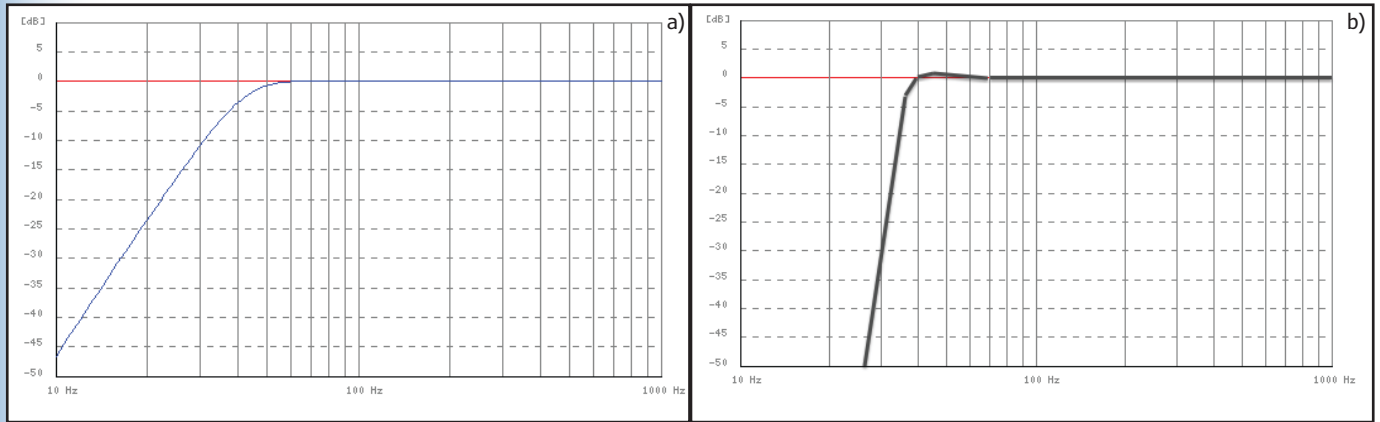

Figure 10: The speaker is shown at 40 Hz maximum then goes flat (a), and with the filter there is a simple rolloff but not much change (b).
- Simply match a custom high-pass filter to a normal, maximally flat system for higher output (see **Figure 10**). This is the most